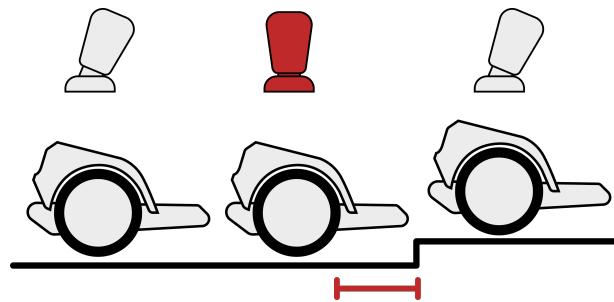

Figure 47. Driving up thresholds: Shortly before the main wheel reaches the threshold, the joystick should be briefly released (brought to the middle position).
3. Just before you reach the obstacle. release the joystick briefly. This raises the track tips slightly and increases the ground clearance, see [Figure 47, "Driving up thresholds: Shortly before the main wheel reaches the threshold, the joystick should be briefly released \(brought to the middle position\)." \[61\]](#).